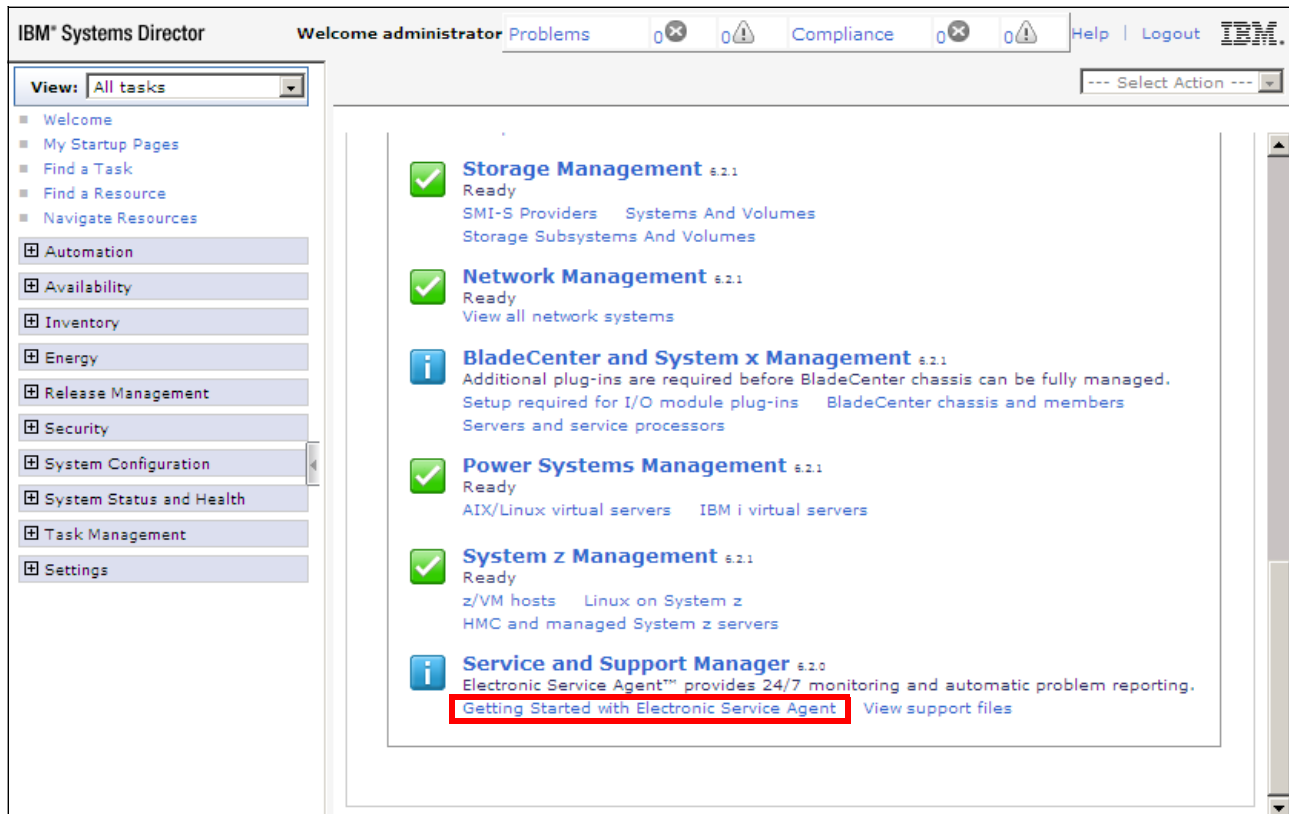

Figure 9-35 Service and Support Manager plug-in
10. Click the **Manage** tab in the right pane and scroll down to the Service and Support Manager plug-in, as shown in Figure 9-35 on page 485. The Service and Support Manager icon is blue, which indicates that additional configuration is required for this plug-in to operate.
11. Click **Getting Started with Electronic Service Agent**, as shown in Figure 9-35.